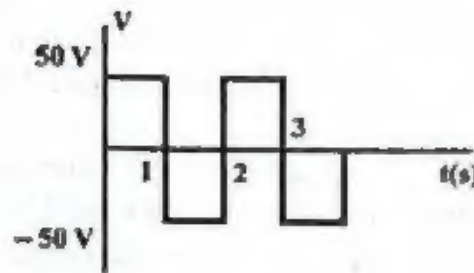

Figure 2 (See Unit-II, Page 51, Prob.3)
- (b) Calculate the average and effective values of the waveform shown in figure 2. Hence find the form factor.